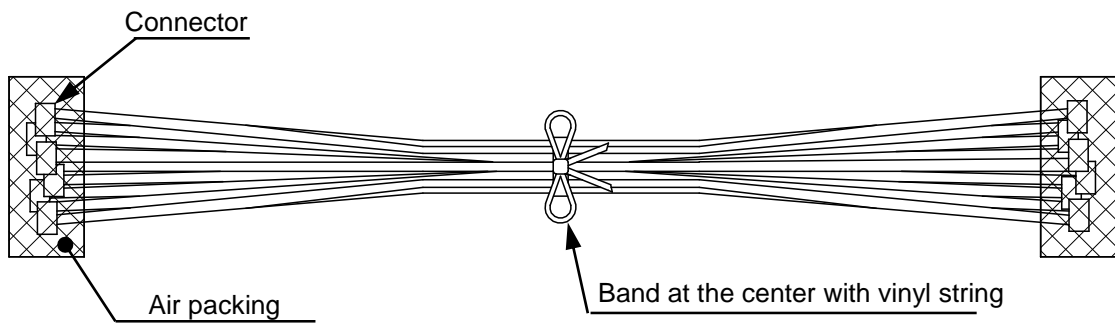

Fig. 7-1
*When bundle the harness, in order to avoid applying excessive force on wires, please do not use anything that fastens tightly such as rubber band. Please band at the center (at one point) with vinyl string. Please protect connector from shock or load by wrapping each bunch of connector with air packing. (Fig. 7-1)